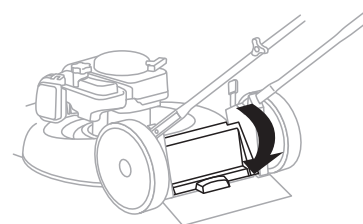

Fig. 10
2. Lower the rear discharge cover. The mower is now ready for mulching. (Fig. 10)